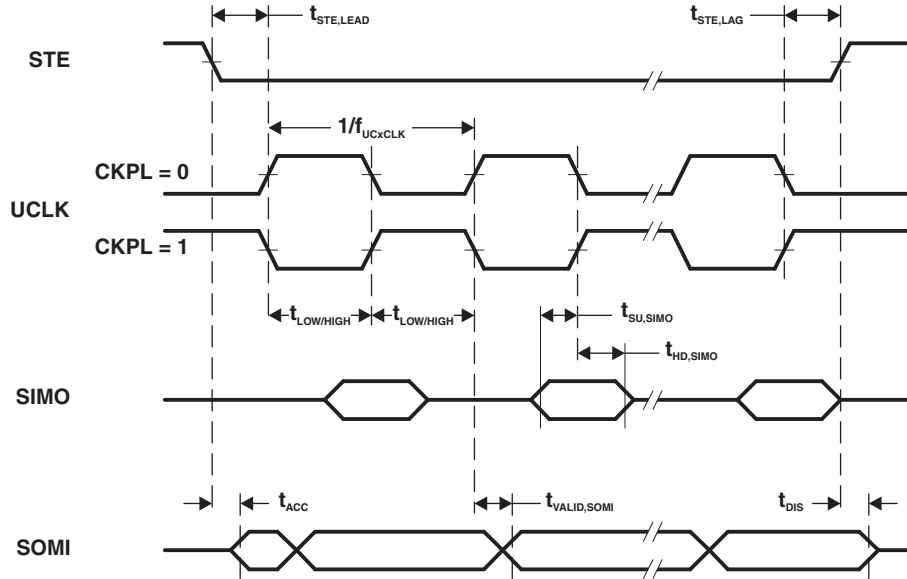
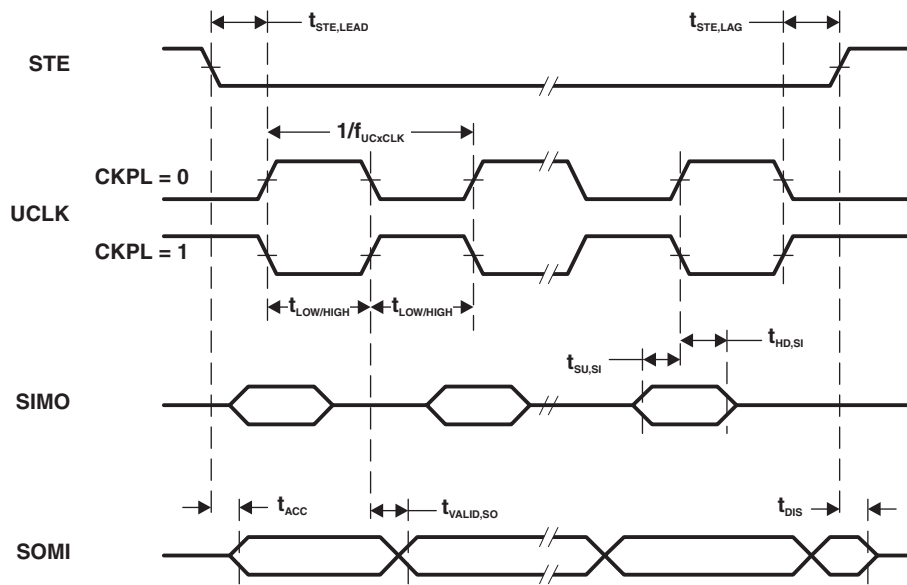

Figure 5-11. SPI Slave Mode, CKPH = 0
Figure 5-12. SPI Slave Mode, CKPH = 1
(2) Specifies the time to drive the next valid data to the SOMI output after the output changing UCLK clock edge. Refer to the timing diagrams in and .
(3) Specifies how long data on the SOMI output is valid after the output changing UCLK clock edge. Refer to the timing diagrams in Figure 5-11 and Figure 5-12.